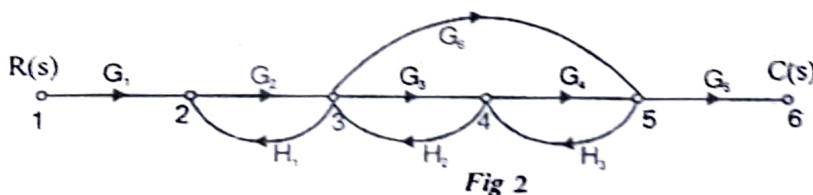

Fig 2
- b) The signal flow graph for a feedback control system is shown in figure 2. Determine the closed loop transfer function $C(s)/R(s)$.